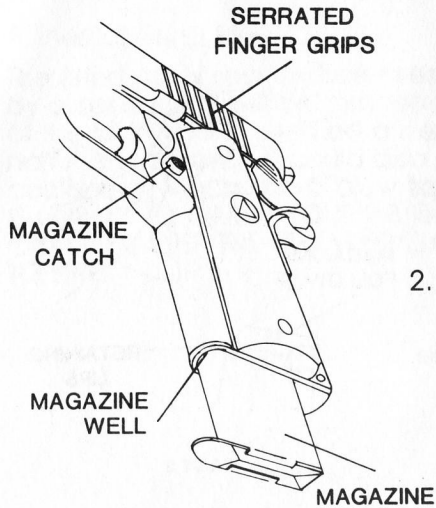

FIGURE 3
1. Remove empty magazine from pistol (place your hand under magazine to catch it) by pressing the magazine catch, which is located on the left side of the pistol behind the trigger guard. (See Figure 3). The magazine should pop out into your hand.